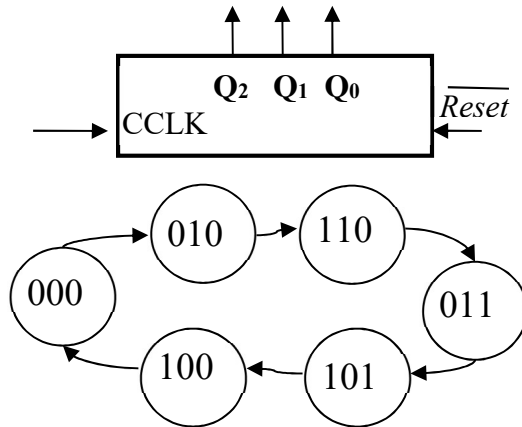

Figure 1: (a) Block diagram and
Block diagram in Fig. 1.(a), has to observe the following counting sequence: 000 --> 010 --> 110 --> 011 --> 101 --> 100 --> 000. This counter is to be implemented with JK flip-flops which have active-low asynchronous *Reset* inputs (CLR_N); the flip-flops' clock inputs (CLK) are connected all together to CCLK (counter clock).
1. Draw the circuit diagrams using the graphics editor of Quartus in a schematic file and save the corresponding *.bdf* file. Use the counter's signal names suggested in the block diagram (Figure 1. a) when editing the names of the pins of your circuit. In the **Project Navigator** pane select the **Files** tab; right-click on your *schematic file (.bdf)* and select **Set as Top Level Entity**